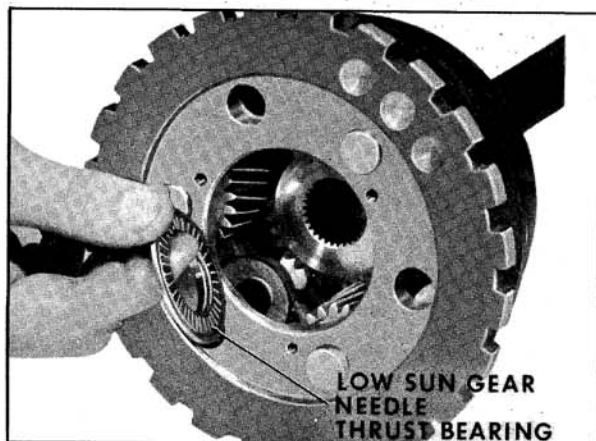

Fig. 6-472 Installing Thrust Bearing
8. Install low sun gear needle thrust bearing. (Fig. 6-472)